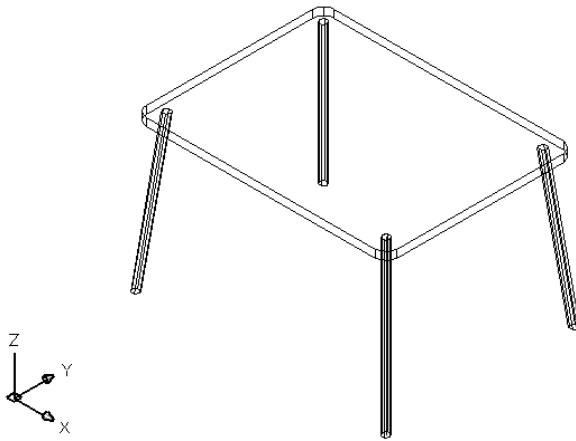

Figure 23-29: The completed table.
9. Save your drawing. It should look like Figure 23-29.